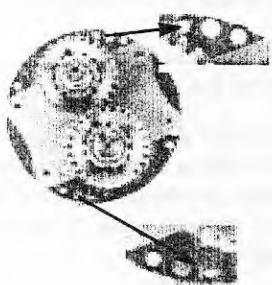

Fig. 5
1. Remove the can (37) and can support(35) as described in section 4.4.
2. Remove the front cover (11) as described in section 4.1.
3. Remove the rotors (6) as described in sectin 4.2.
4. Undo and remove the chassis screws (17).
5. Pull the chassis (19) off the foot(1) by using the tapped holes - see fig. 5.